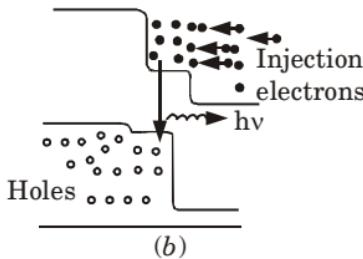

Fig. 4. (a) The double heterojunction LED, layer structure.
1. The principle of operation of the DH LED is shown in Fig. 4.